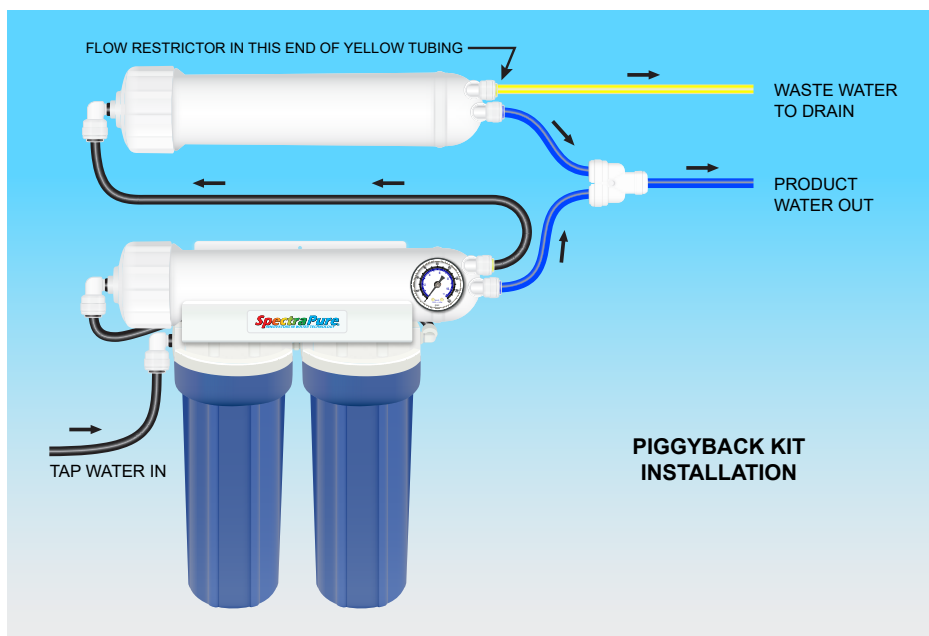

Figure 1: Installation of Piggyback Kit
3. Install the two double sided clips onto the existing membrane housing. Orient the new RO membrane housing as shown in Fig. 1. Push the membrane housing into the clips.
7. Locate the flow restrictor included with this kit. Install it into the BRINE port on the second membrane housing. (See Figure 1) Then reinstall the 1/4" yellow tubing onto this port.
1. Locate the waste water tubing that contains the flow restrictor. (Refer to Figure 1 on Page 3 for systems without manual flush and ASO valve; Figure 2 for systems with manual flush and/or ASO valve.)